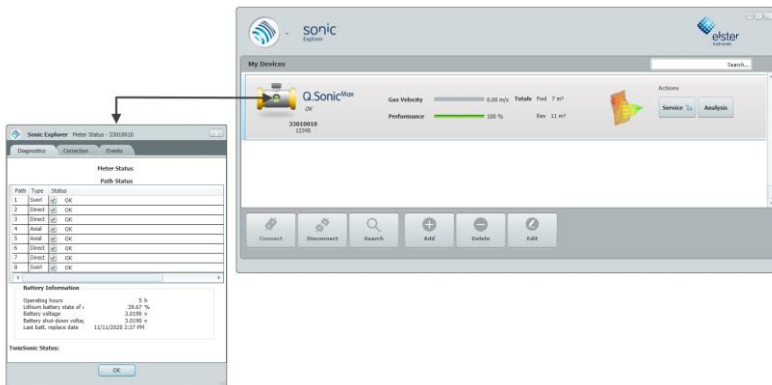

Figure 12-7 Quick Check of the Meter Status
- ✓ Another window will open showing the **Path Status**, see Figure 12-7